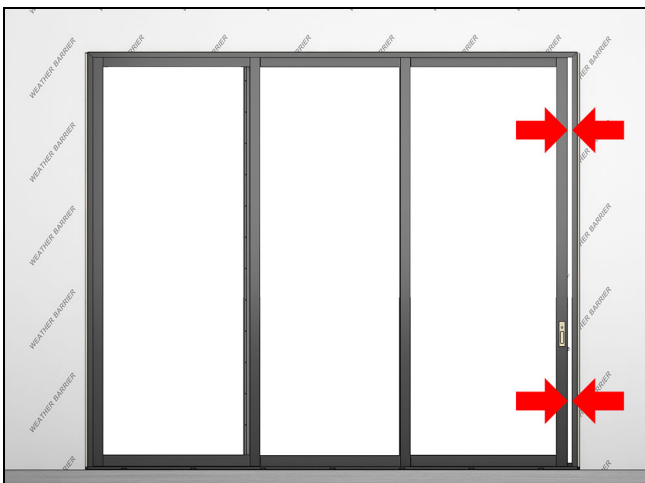

Figure 191
6. Recheck for an even reveal and repeat the previous steps if necessary. See Figure 191.